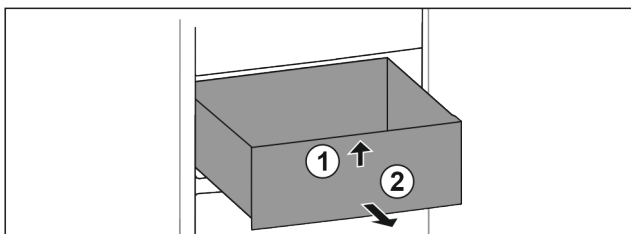

Fig. 89
- ▶ Lift up drawer at the front. Fig. 89 (1)
- ▶ Remove drawer to the front. Fig. 89 (2)